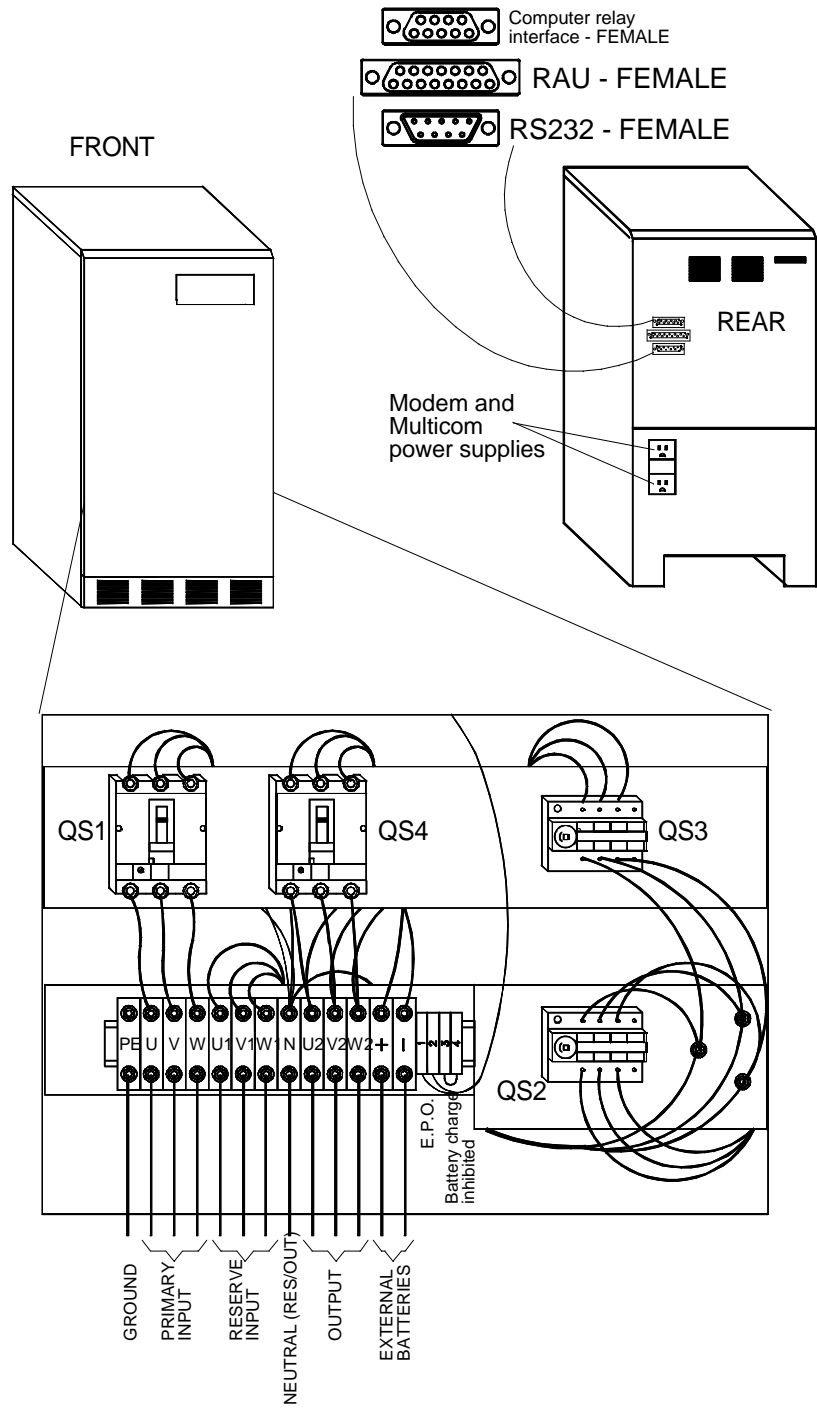

Figure 21 - 36 – 24/30/36kVA: Cable Connections
- c) This exposes the electrical terminal rail, see Figure 21
- e) This exposes the electrical terminal rail, see Figure 21